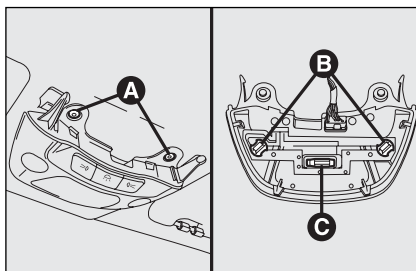

fig. 42
- slacken the 2 fastening screws **A**-fig. 42, then turn the 2 bulb holders **B** counterclockwise;
- remove the bulbs and replace them. To replace bulb **C**-fig. 42, release it from the side contacts making sure that the new bulb is correctly clamped between the contacts.